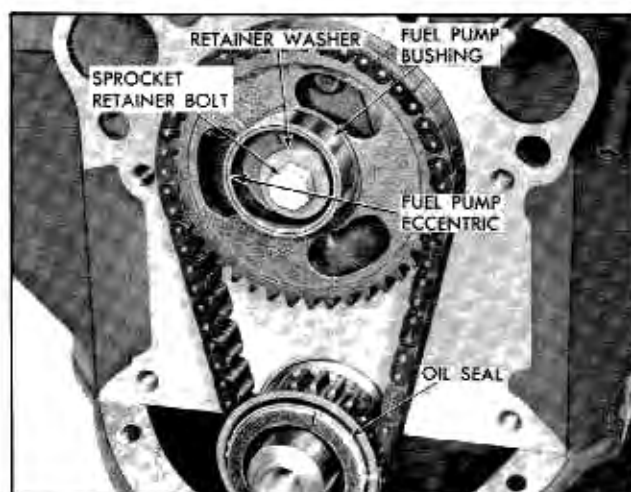

Fig. 6-25 Front of Engine with Timing Sprocket Cover Removed
19. If new fuel pump eccentric is to be installed, remove camshaft sprocket retainer screw and retainer washer and remove eccentric (Fig. 6-25). Install new eccentric, indexing pin on eccentric with hole in cam-